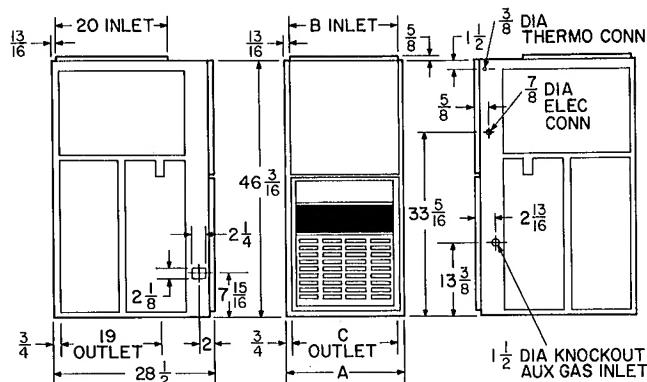

Fig. 2 — Dimensions (in.)
- See Fig. 2 for dimensions and location of supply air opening in furnace bottom